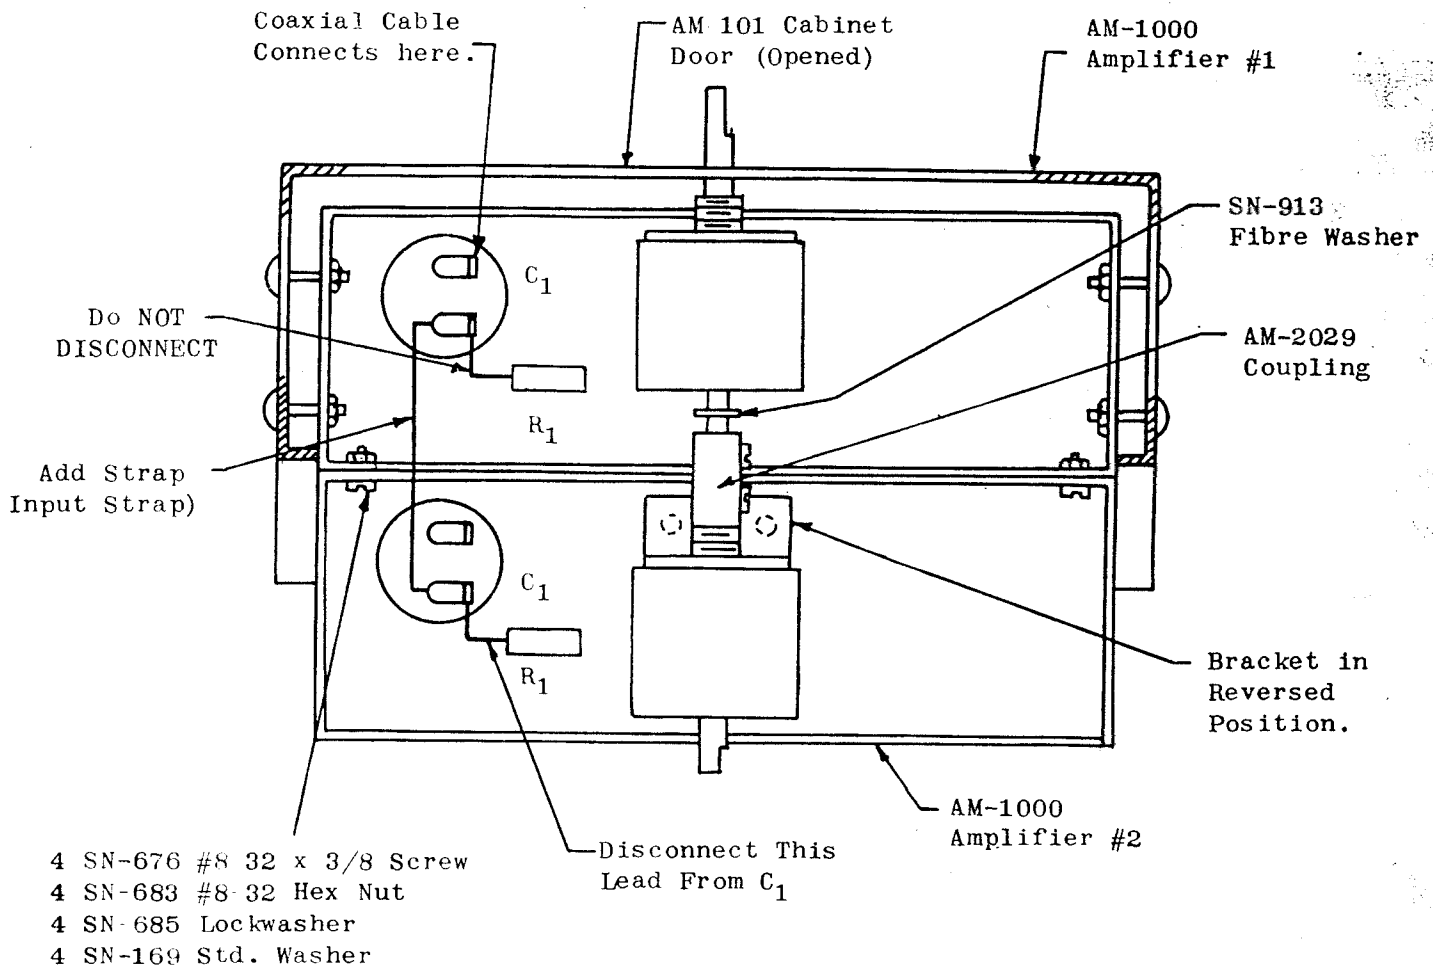

FIGURE 2.
Like terminals on the two AM-1000 should be strapped together per Figure 1 below. The input should be strapped by connecting a wire between the lower terminals of C_1 in each amplifier (See Figure 2). Be sure that the circuit changes have been made in each AM-1000 per section 3-A below.
- B. The installation procedure for the second amplifier (modified per Section 3-A above) is as follows (See Figure 2):-
- (1) Install fibre washer (required to avoid grounding) and AM-2029 Coupling on potentiometer shaft of first amplifier.
- (2) On second amplifier remove potentiometer from bracket. Do not disconnect wires. Reverse potentiometer mounting bracket to provide space for the AM-2029 Coupling, and remount potentiometer.
- (3) Attach second amplifier to first, using four #8-32 x 3/8 R.H.I.M.S., nuts and lockwashers supplied.
- (4) Line up second potentiometer with first. A slotted hole is provided in the bracket for this purpose. Tighten coupling set screw and the potentiometer locknut.